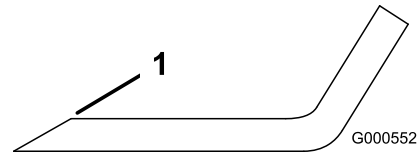

Figure 17
1. Use a file to sharpen the cutting edge at both ends of the blade (Figure 17).
Note: If the blade is not balanced, file some metal off the end of the sail area only (Figure 17).